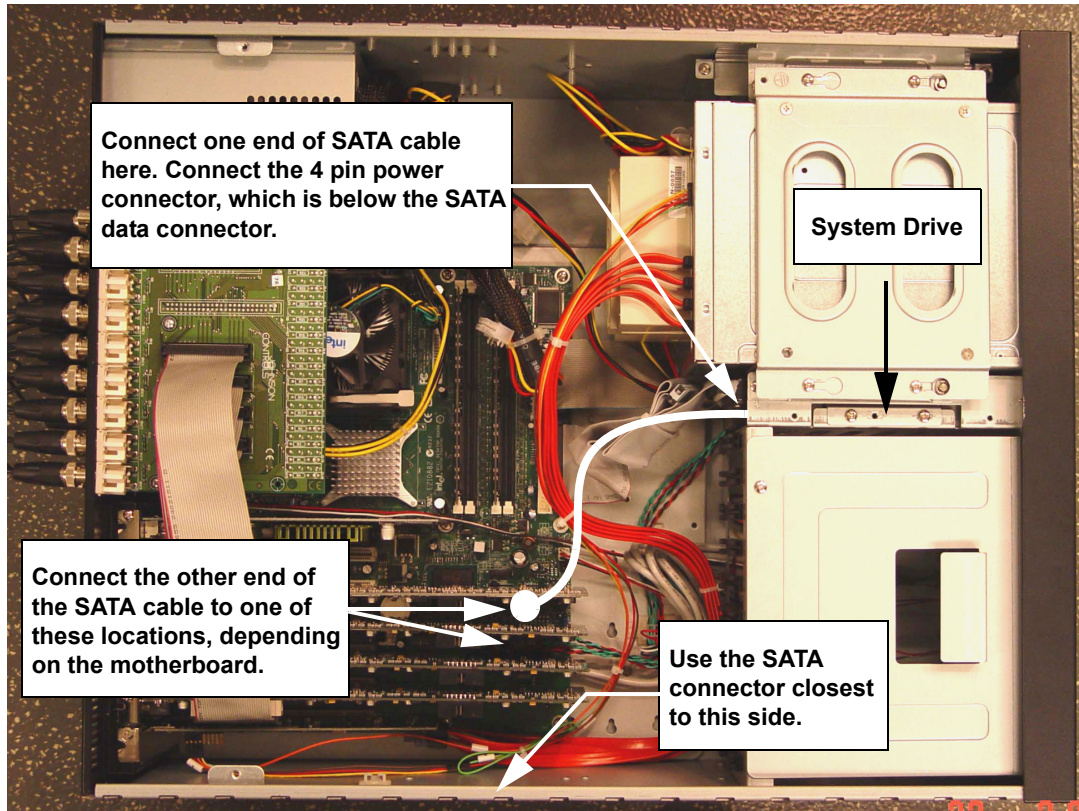

Figure 5: SATA Cable Connections (4-bay Drive Chassis)
13. Insert and secure the SATA drive with its new bracket into the same location where the IDE drive was removed. See Figure 5.
14. Connect one end of the SATA cable provided in the kit to the new SATA system drive. Connect the other end to the motherboard according to Figure 5.
There are 2 or 4 SATA connectors on the motherboard. When connecting the SATA cable to the motherboard, connect the cable to the connector furthest from the CPU (see Figure 5).